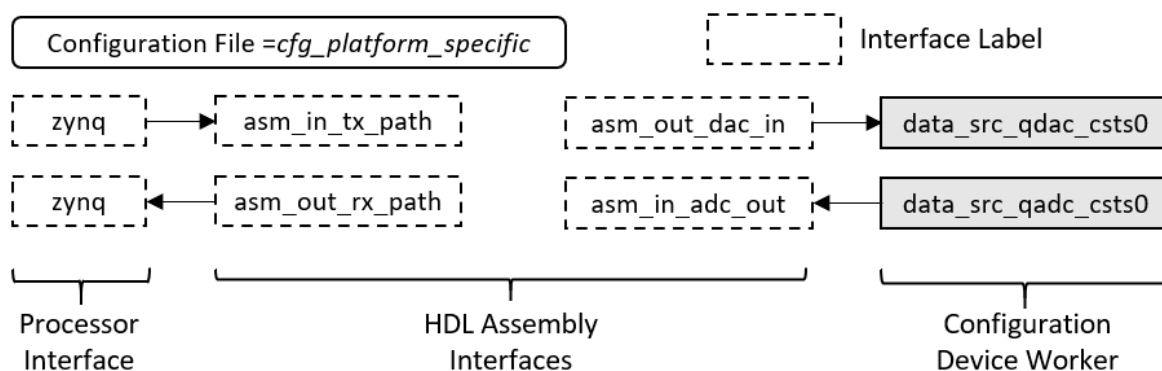
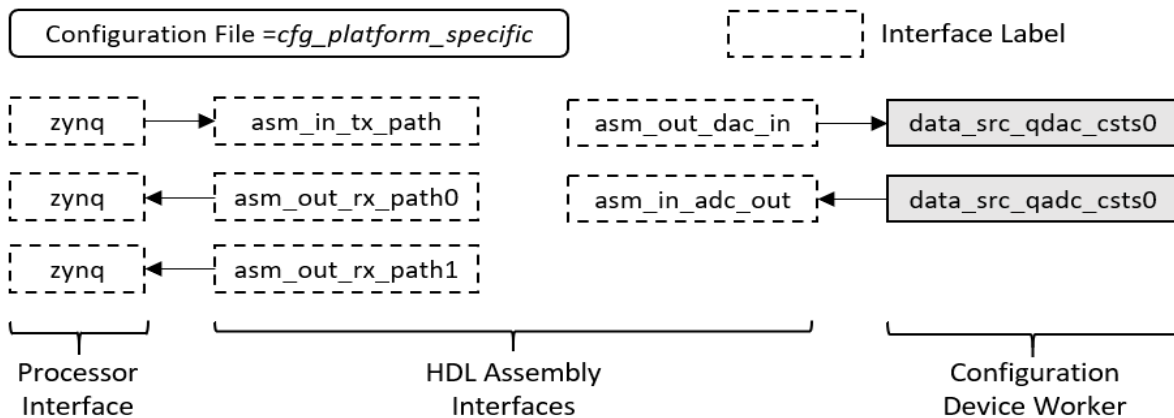

Figure 12. TXRX HDL Container (Mostly RCC).
Figure 13. TXRX HDL Container (Mostly HDL).
Each HDL container file is unique to the specified hardware platform. The HDL container specifies the respective platform configuration file and defines the external interfaces to be used by the HDL assembly. The external interfaces include connectivity to the processor system and to the interfacing configuration device, typically the RF front-end elements, such as the ADC and DAC, as shown in Figure 12 for the TXRX mode “mostly RCC” and Figure 13 for “mostly HDL”. The HDL containers for each platform are located in the same directory as the HDL assembly file.
The processor interfaces named 'zynq' in both Figure 12 and Figure 13 define each platform's Scalable Data Plane (SDP) interface. SDP is the OpenCPI's framework interface connecting the hardware platform's FPGA programmable logic (PL) to the FPGA's processing subsystem (PS) using interconnects such as AXI, PCI Express and Ethernet. For the zcu104 platform, the processor interface name is 'zynq_ultra'. Since all four platforms used in this guide are based on the Xilinx Zynq FPGA, the AXI interconnect is used. The SDP interface is declared for each platform in each of their HDL Platform definition file listed below: